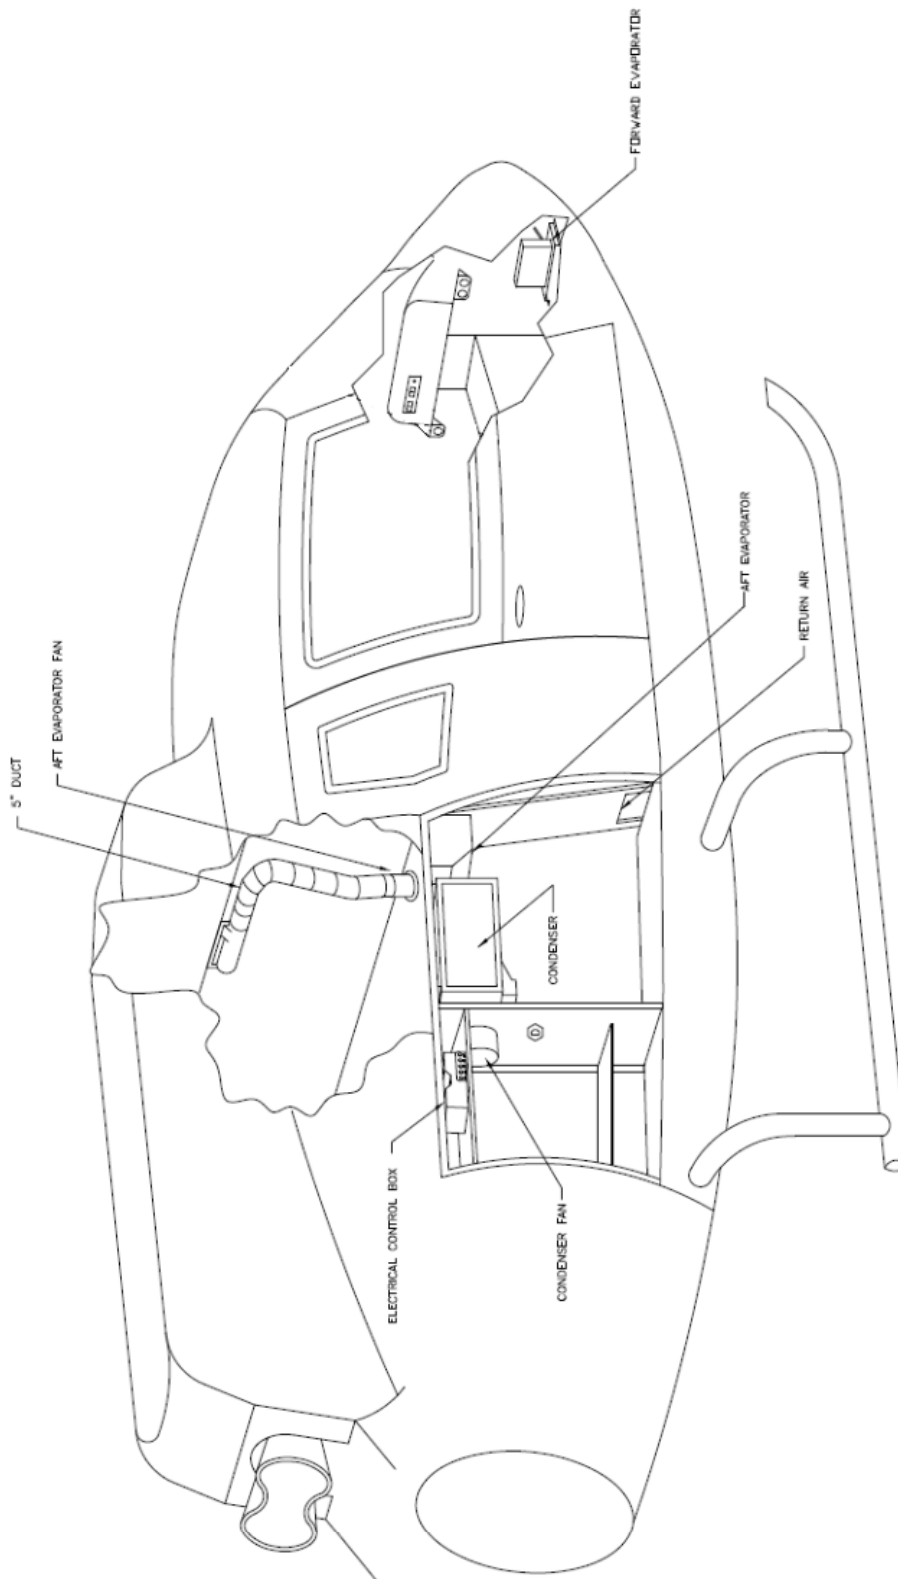

Figure 21-01: Equipment Locations for Air Conditioning
- **Condenser-** The condenser is located in one of two positions depending on kit part number (Ref. table 21.1). The aft mounted condenser (Ref. figure 21-01) is mounted in the tail boom mounted 5 in. above the baggage floor. The side mounted condenser is located in the right baggage compartment (Ref. figure 21-02). The EC-130 condenser is only located in the aft mounted configuration. The aft mounted condenser assembly has two blower motors, whereas the side mounted condenser assembly only has one blower motor.
350-00-011-HP	Side Mounted Condenser (Ref Figure 21-01)